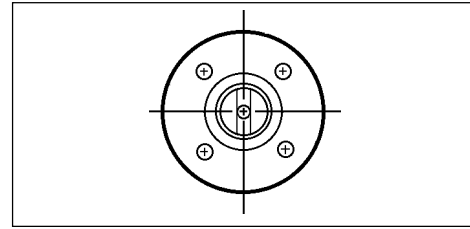
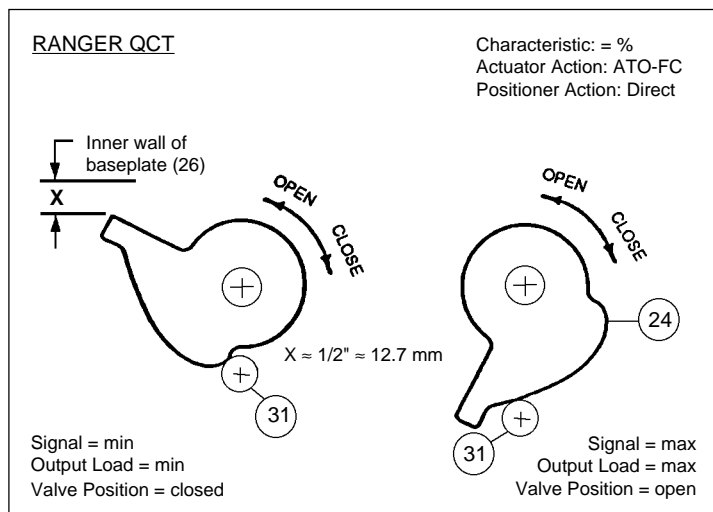

Figure 2.8: VDI/VDE #3845 Positioner Mounting Bracket
Figure 8
four cap screws (79). The bracket should end up with four holes to mount the positioner unit and its baseplate (26) as shown in Figure 2.8.
7. Attach the baseplate and mounting bracket (76) assembly to housing cover (13) using four cap screws (78). Align baseplate (26) to be parallel with bottom of valve's arm housing (4). See III.C. **NOTE:** Engage the tongue-and-groove joint between the positioner baseplate rotary shaft (32) and the spacer (17) with its protruding set screw (77).
8. Determine characterization cam's (24) proper orientation as indicated in Figures 8 thru 15; cut a spacer from wood or heavy cardboard to the dimension "X" indicated.
15. Position the positioner unit onto baseplate (26), ensuring that the feedback lever's (13) roller is placed into contact with characterization cam (24) into the approximately proper location. (See Figures 8 thru 15.)
16. Fasten the positioner unit to the baseplate (26) inserting two cap screws (11) with lock washers (12) thru the side of baseplate (26).
17. Remove the positioner cover (WC). Remove plastic plug (33) from the upper edge of baseplate (26), allowing access to the socket cap screw (21).
2. Recheck character cam (24) position carefully. Loosen post-end screw (23) and retighten as required to maintain dimension "X" spacing per Figures 8 thru 15. Valve may need to be stroked to "full open" or "full closed" position to allow measurement of "X". (**NOTE:** *Do not locate cam follower (31) in "valley" of the equal % or linear cams (24) at either end of stroke: follower (31) will always be slightly out of the "valley".*) Stroke valve thru full travel to ensure proper cam (24) orientation.
- b. Release all tension on range spring (41) by turning zero thumbscrew (39) CCW.